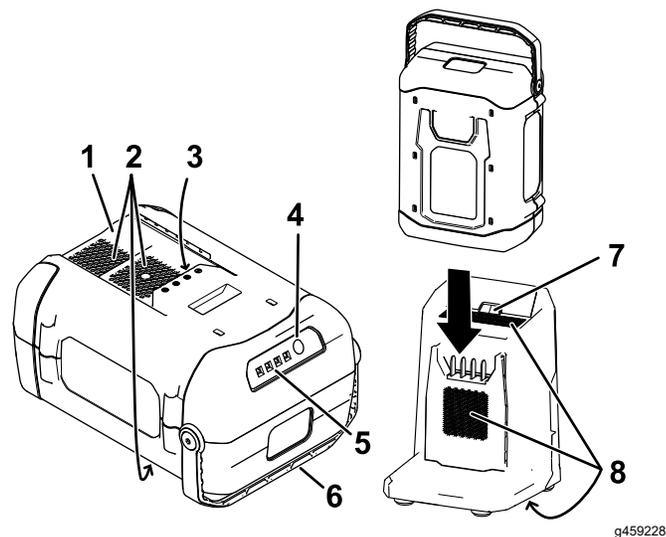

Figure 17
2. Line up the cavity in the battery pack (Figure 17) with the tongue on the charger.
3. Slide the battery pack into the charger until it is fully seated (Figure 17).